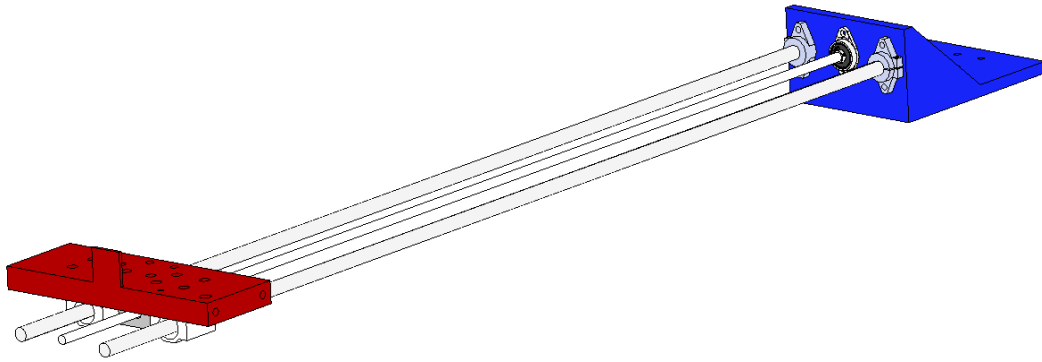

Figure 22: X-Axis assembly.
4. Insert the *universal mount* assembly in the linear rods and the lead screw. Keep the *universal mount* assembly at the end of the linear rods to avoid damaging the assembly. Rotate the screw to adjust the position of the universal mount. The X-Axis assembly is shown on figure 22.